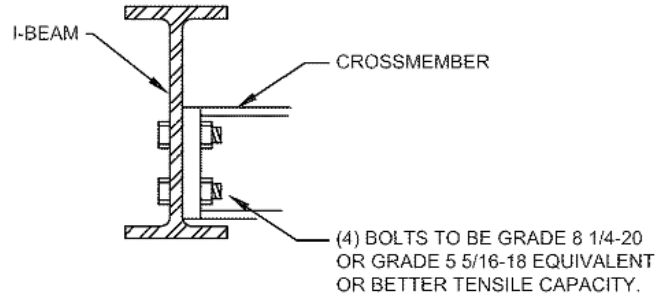

Figure 3: Bolt-On Cross member
- Add a bolt on cross member, available from the home building facility. (Figure 3)